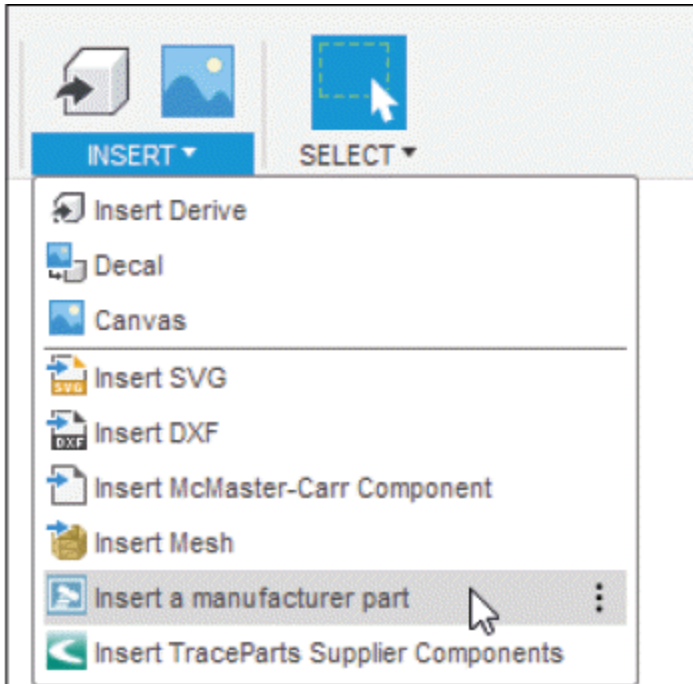
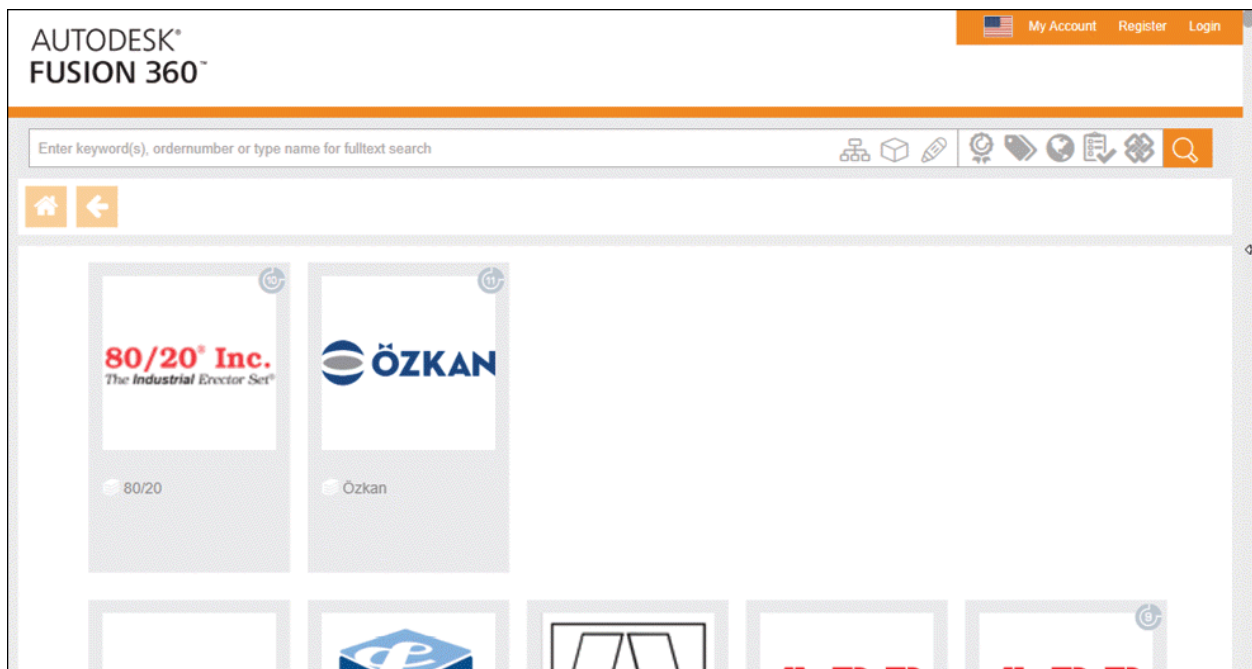

Figure-28. Insert a manufacturer part tool
Figure-29. AUTODESK FUSION 360 part community window
- Click on the **Insert a manufacturer part** tool of **INSERT** drop-down from **Toolbar**; refer to Figure-28. The Part Community web page will be displayed in default web browser; refer to Figure-29.